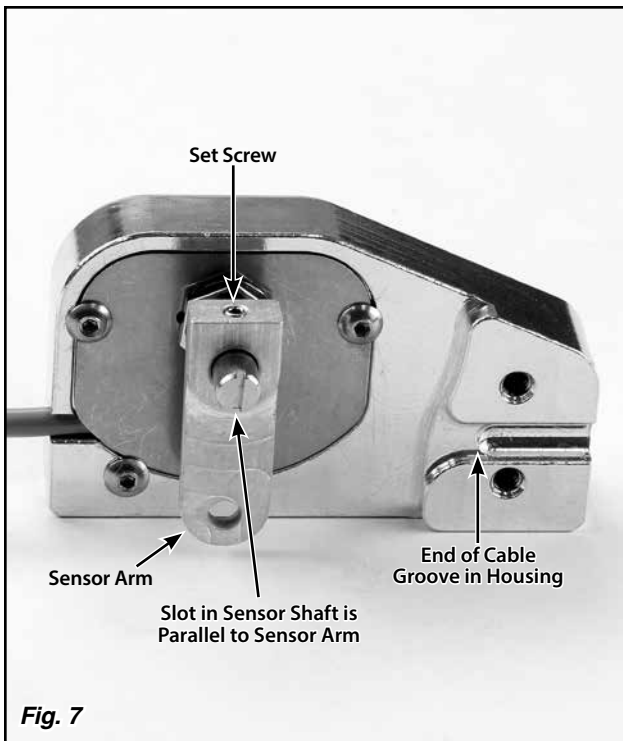

Fig. 7
Step 4: Make sure the sensor arm is parallel to the slot in the sensor shaft, with the set screw in the top of the sensor arm aligned with the slot. If it is not, loosen the set screw in the top of the sensor arm using a 1/16" Allen wrench, and adjust the position of the sensor arm on the shaft. **Fig. 7**
There is a groove in the sensor housing that the end of the cable housing fits in to. Mark the cable housing at the end of the cable housing groove. Remove the cable housing from the adjustable cable mounting bracket. **Fig. 6** and **Fig. 7**